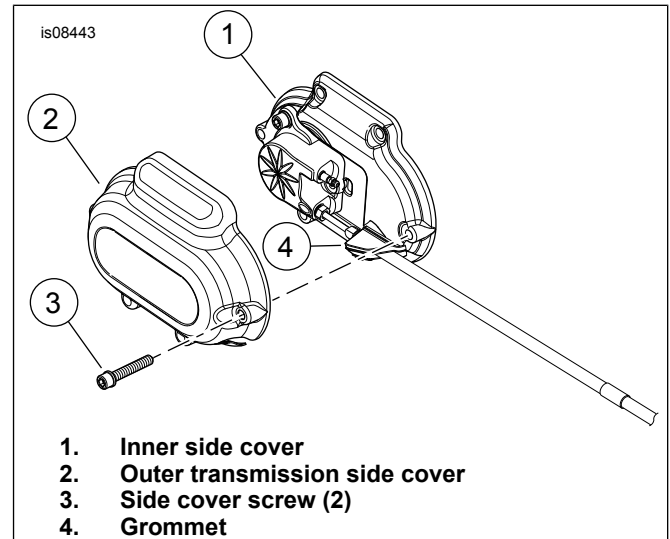

Figure 1. Transmission Side Covers
4. See Figure 1. Remove outer transmission side cover (2).